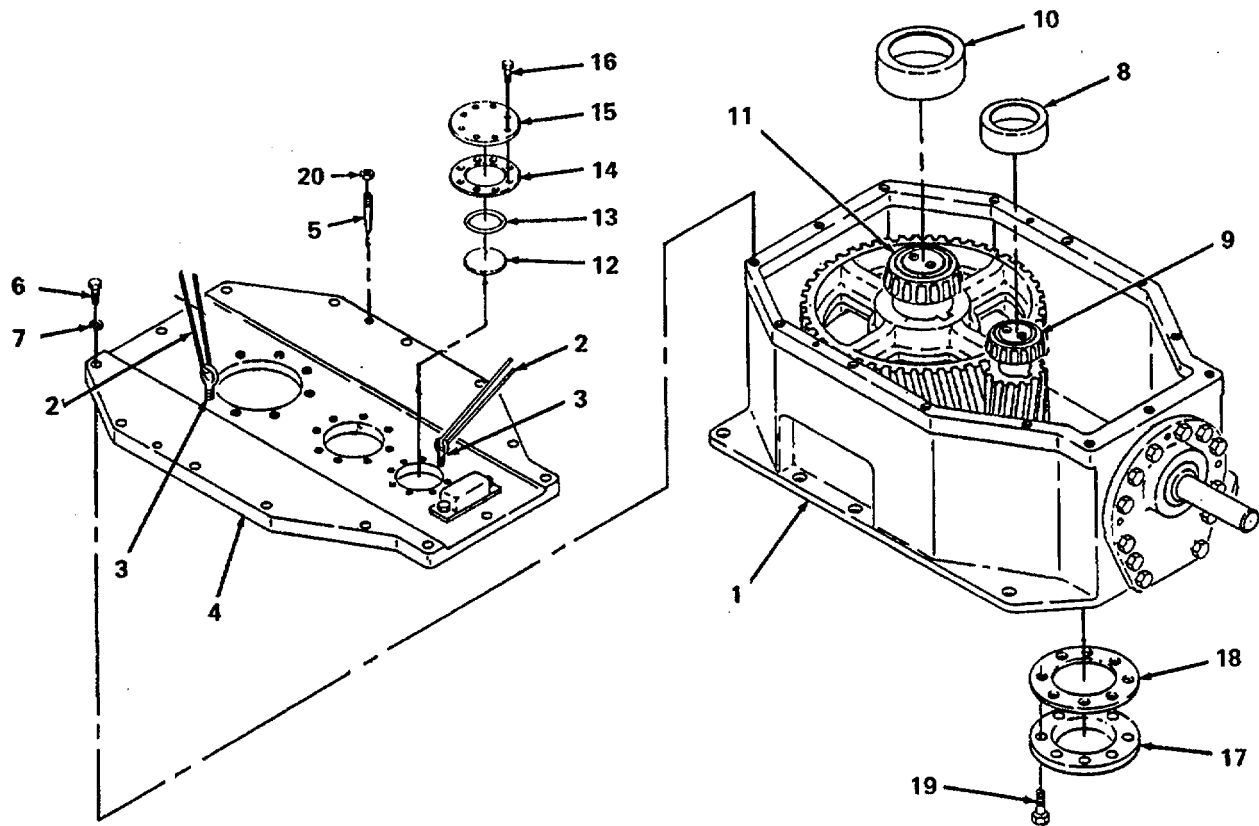

Figure 6-24. Install Cover on Housing Assembly.
- (9) Install cover on housing assembly.
- (a) Coat mating surface of housing (1, figure 6-24) with Permatex No. 3, or equivalent.
- (b) Connect lifting sling (2) to eyebolts (3) installed in main cover (4). Lift cover, and carefully lower cover (4) onto housing (1).
- (c) Install taper dowels (5) and remove lifting sling (2) and eyebolts (3).
- (d) Lubricate and install xx screws (6) and xx washers (7) securing main cover (4) to housing (1) and tighten screws to torque specified in Appendix G.
- (e) Install outer bearing race (8) on intermediate shaft assembly (9).
- (f) Install outer bearing race (10) on low speed shaft assembly (11).
- (g) Install oil baffle (12), O-ring (13), .031 inch shim (14), and upper end cover (15) on unused shaft bore in housing (1). Install eight screws (16) and tighten to torque specified in Appendix G.
- (h) Install lower end cover (17) and shim (18) on unused shaft bore, install eight screws (19), and tighten to torque specified in Appendix G.
- (i) Install nuts (20) on taper dowels (5) and tighten until snug against cover.